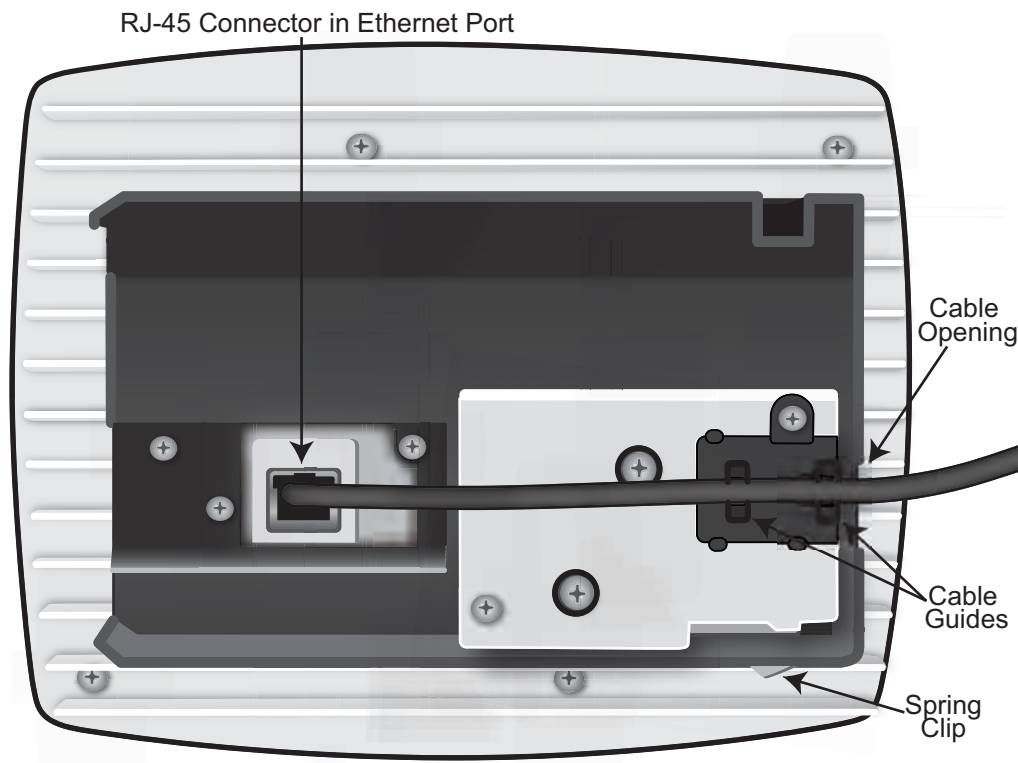

Figure 11 Route and Terminate the Cable
- Step 2** Insert the RJ-45 connector into the Ethernet port as shown in Figure 13. Route the Ethernet cable through the cable guides and pedestal base cable opening and through the cable guides as shown in Figure 11: